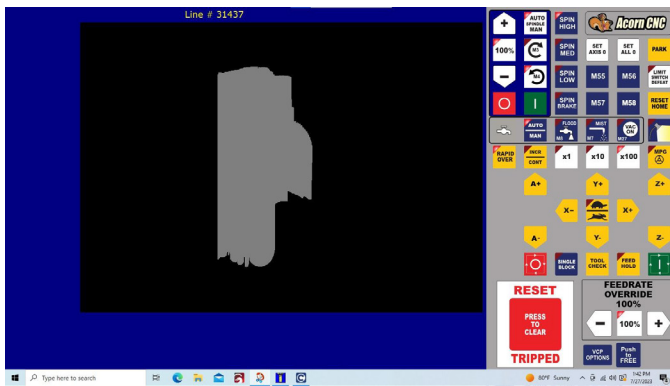

FIGURE 18
- The picture you see on screen is a representation of the engraving (see Figure 18).